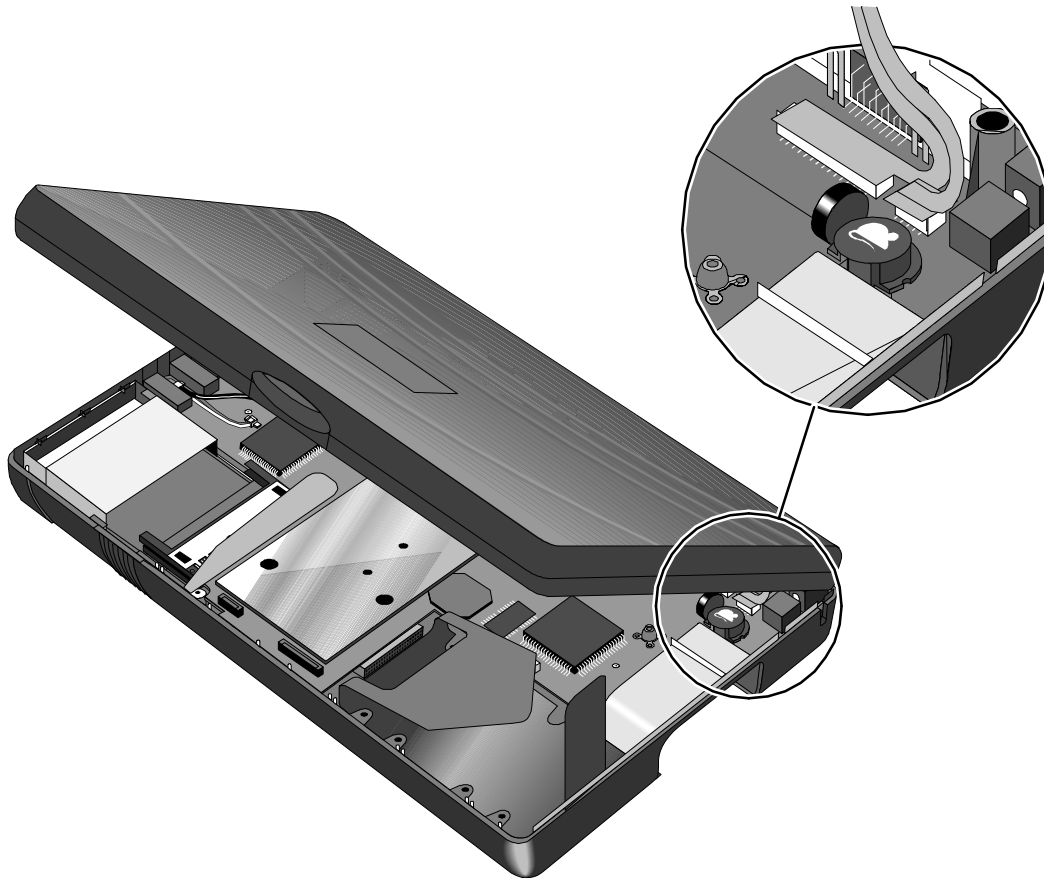
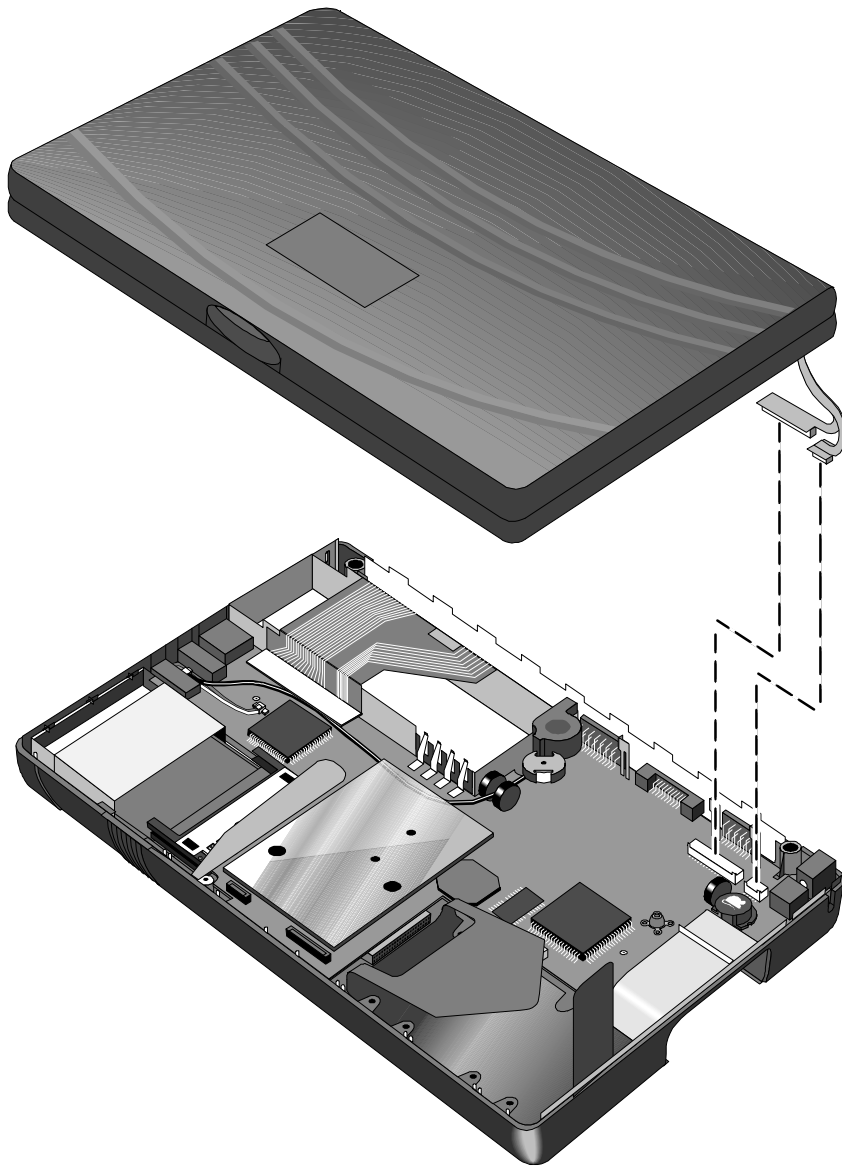

Figure 34 - Display Flex Cables
Figure 35 - Top Case and Display Removal
6. Close the cover and gently pry the Top Case and Display Assembly from the Bottom Case along the case seam. See Figure 34 on page 64 and Figure 35 on page 65. **Take caution of the Display Flex Cable(s) still connected to the Bottom Case, as it is the only component now holding the Top Case and Display Assembly to the Bottom Case; do not lay the Top Case and Display Assembly down at this point.**